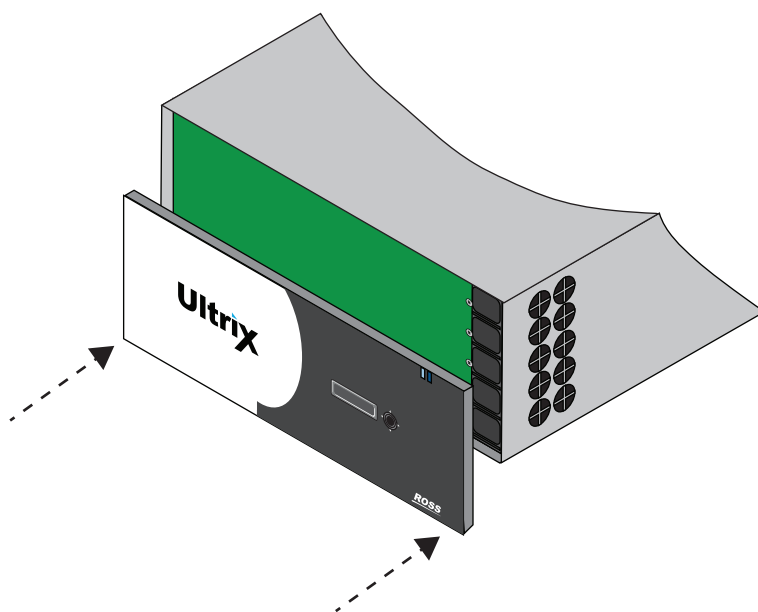

Figure 26.4 ULTRIX-FR5 — Aligning the Door to the Chassis
- the corner with the Ross logo is in your right hand. (**Figure 26.4**)